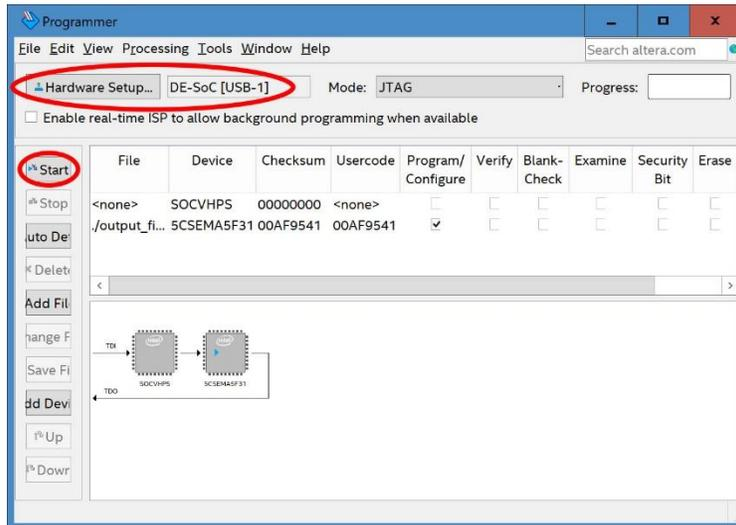

Figure 12: Programmer dialog box with the "Start" and "Hardware Setup..." buttons highlighted.
- 4) This will bring up the Programmer dialog box (*Figure 12*).